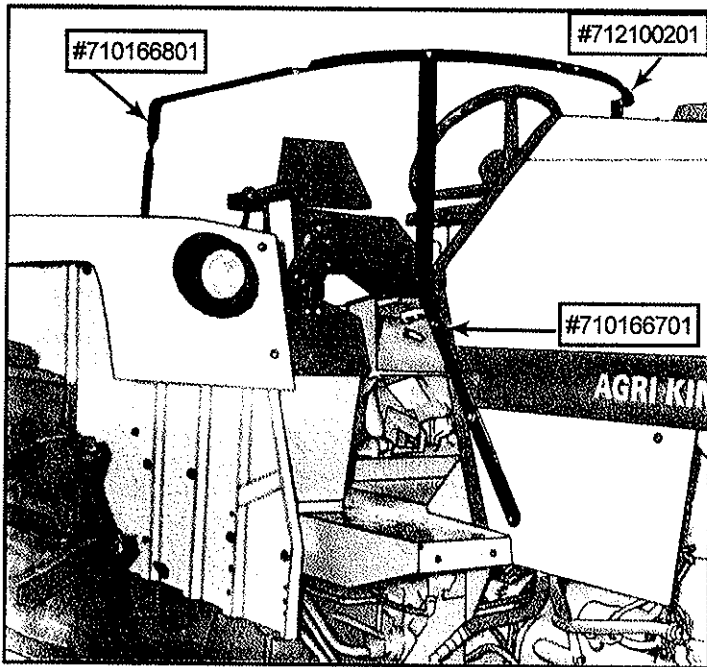

Figure 1
2. Bolt #710166701 right support on right side of tractor using 5/16" x 1 1/2" hex bolt in bottom and 5/16" x 3/4" at the slot. Do not tighten up tight at this time. See Figure 1.
4. Place cover over tractor and slide wide hem on left side over door post. Slide #712100201 yoke in wide hem at top of cover. Bolt yoke to top of door post and right support using 1/4" x 1" hex bolts and nuts. Heads of bolts toward driver. See Figures 1 & 2.
5. Slide #710166801 side arm into wide hem on right side of cover and bolt front of side arm to yoke using 3/8" x 1 1/2" hex bolt and nut. Place back edge of side arm to fender and mark through hole. Drill 13/32" hole in fender and bolt to fender using 3/8" x 1 1/2" bolt and nut. See Figure 1.